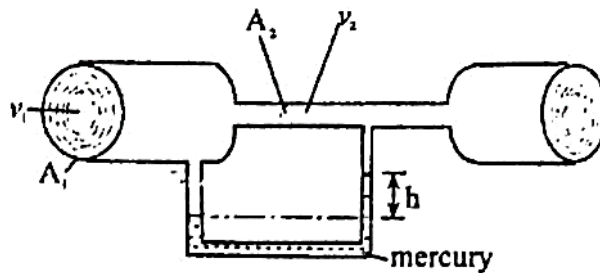

Fig.3.1
- (b) Fig.3.1 shows a venturi tube used to measure the speed of water v_1 in a pipe.